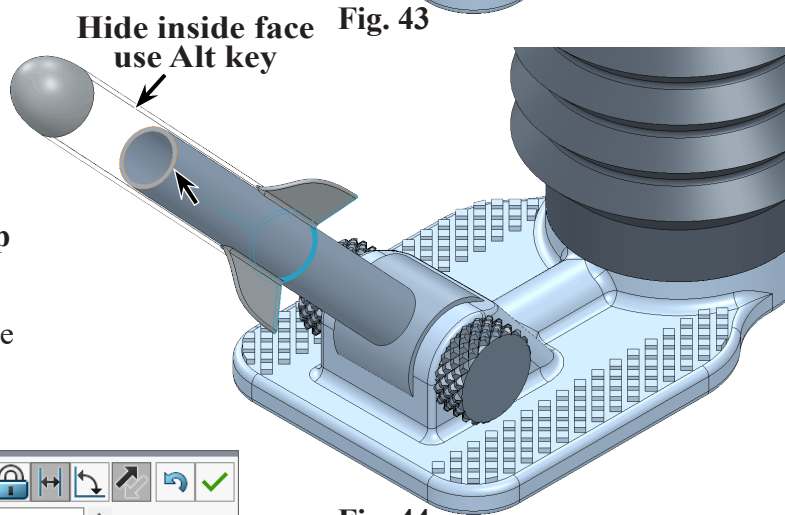

Fig. 44
Step 6. **Hide both cylindrical faces of Rocket** and click top end face of **Tube**, **Fig. 44**.